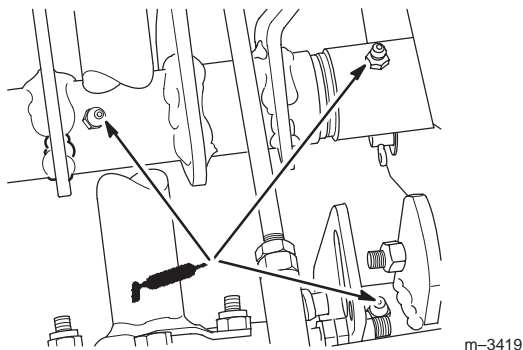

Figure 32
4. Lubricate the three grease fittings (Fig. 32)